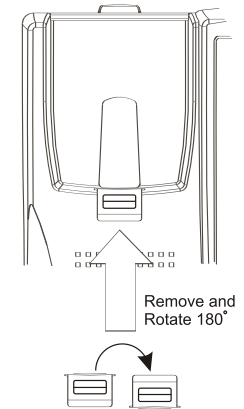

Figure 1
- b. Rotate 180 degrees and reinsert. The handset hook guide will ready for wall mouting. (Figure 1)